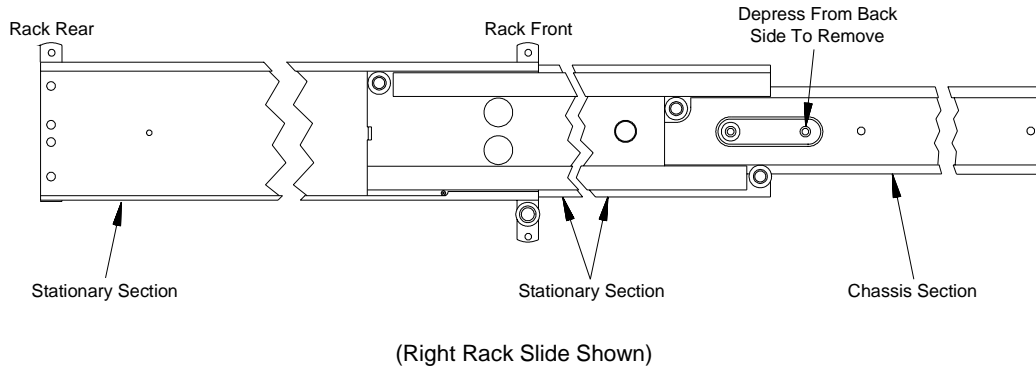

Figure 2-8. Removing the Rack Slide Chassis Section from the Intermediate Section.
- Remove the chassis section from the intermediate section (Figure 2-8). (The chassis section will be connected to the mainframe in Step 7.) Slide the intermediate section back into the stationary section.